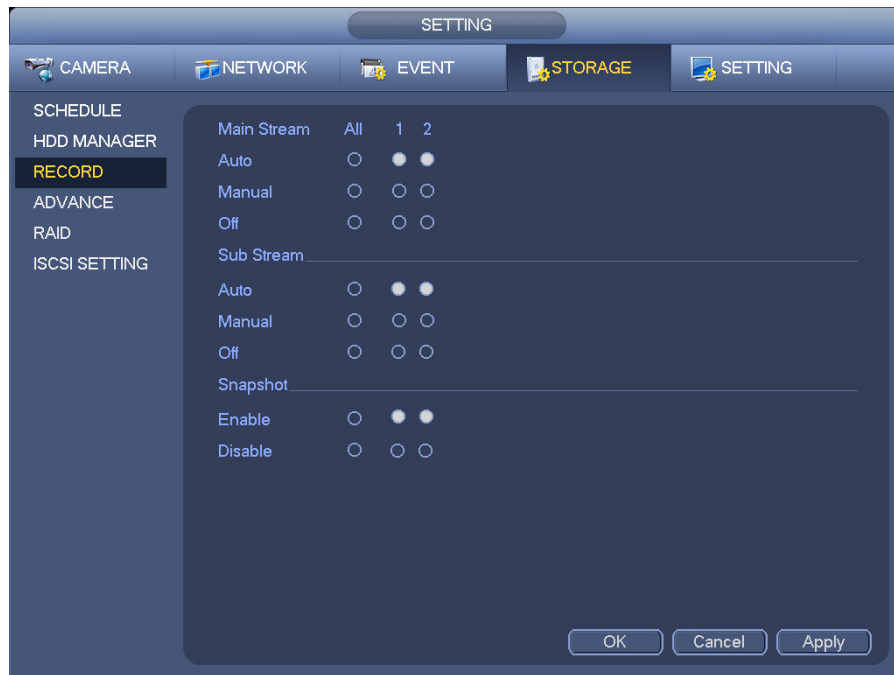

Figure 3-58
- a) Right click mouse and select manual record or in the main menu, from Setting->Storage->Manual Record. Manual record menu is shown as in Figure 3-58.